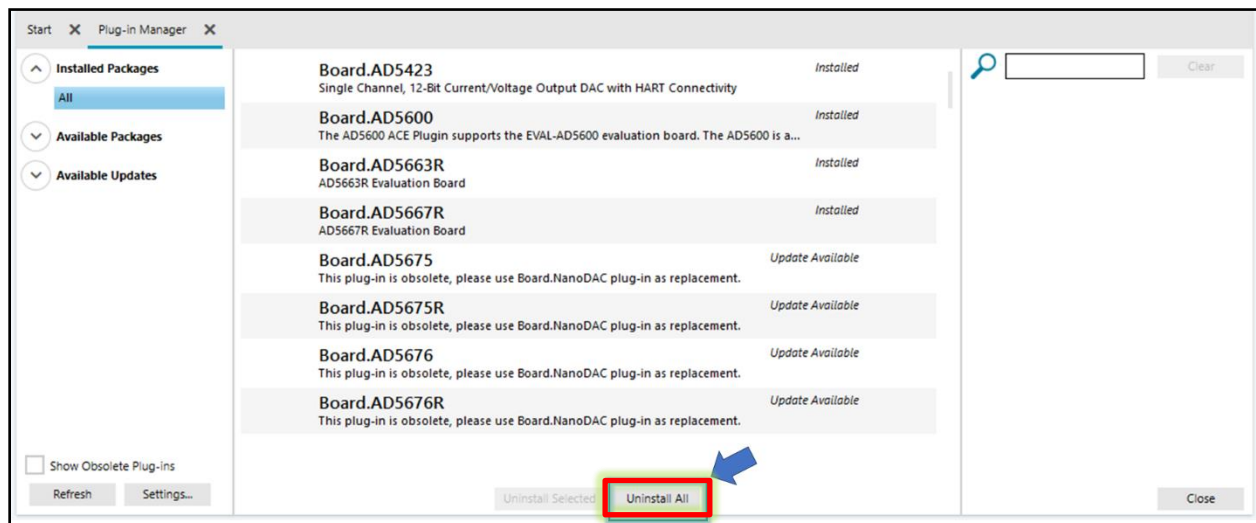

Figure 5
3. Select the "Load EEPROM content from file" option and navigate to the local folder where the AD5693R.dat file is located and then select it. The main window will update to reflect the contents of the file. **Please verify that the "EEPROM address" and other entries on the forms match those displayed in Figure 5.**